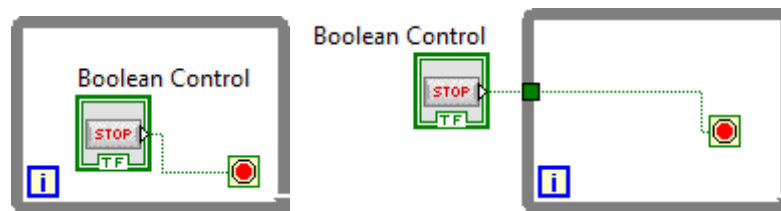

Fig. 2B
- 2C. Analyze the 2 loops given in Fig. 2B for which Boolean switch is initially false and VI starts running. After sometime the Boolean switch is made true. Comment on the conditions for both the loops 2